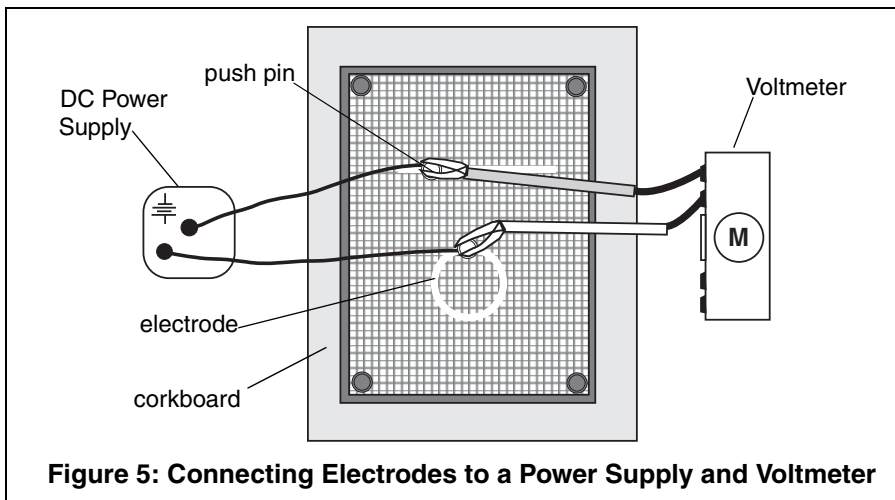

Figure 5: Connecting Electrodes to a Power Supply and Voltmeter
1. Using the supplied connecting wires, connect the electrodes to a battery, DC power supply, or any other potential source in the 5 to 20 VDC range (See Figure 5). The potential source should be capable of supplying 25 mA. (If possible, the potential should be equal to the full scale reading of the electronic voltmeter used in the experiment.)